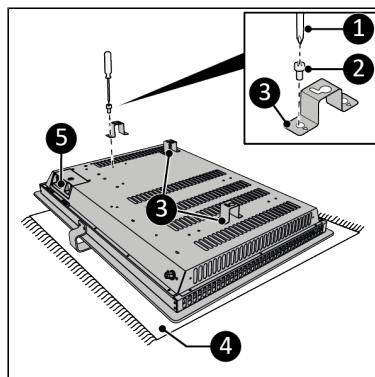

Figure 28.
12. Lay the device down on a soft steady surface (Figure 28, pos. 4).
13. Screw and tighten three brackets (Figure 28, pos. 1) on both sides of the main body (Figure 28, pos. 5) with a small screw (Figure 28, pos. 2) using a Phillips screwdriver (Figure 28, pos. 3).